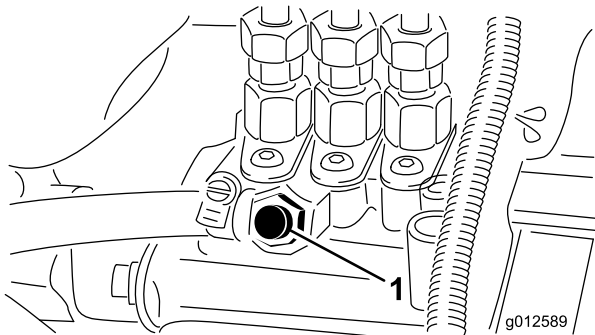

Figure 31
4. Open the air-bleed screw on the fuel injection pump (Figure 31).